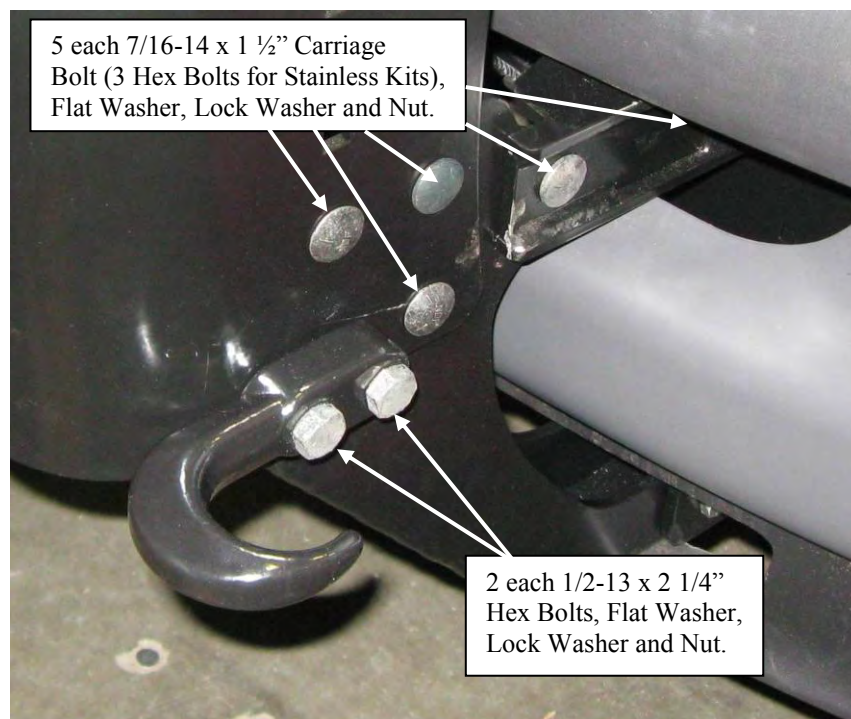

Figure 11: Large Frame Carrier: Carriage and Tow Hook Bolt Positions.
22. Tighten the 4 carriage bolts that connect the bottom bracket to the frame extension bracket that protrudes through the bumper and torque to 50 lb. ft. (67.8 N-m). See **Figure 11**.
23. Tighten the tow hook bolts on the outside of the winch carrier and torque to 75 lb. ft. (101.7 N-m). See **Figure 11**.
24. Tighten the carriage bolts (Hex Head Bolts for SS kits) behind and above the tow hook and torque to 50 lb. ft. (67.8 N-m). **See Figure 11.**